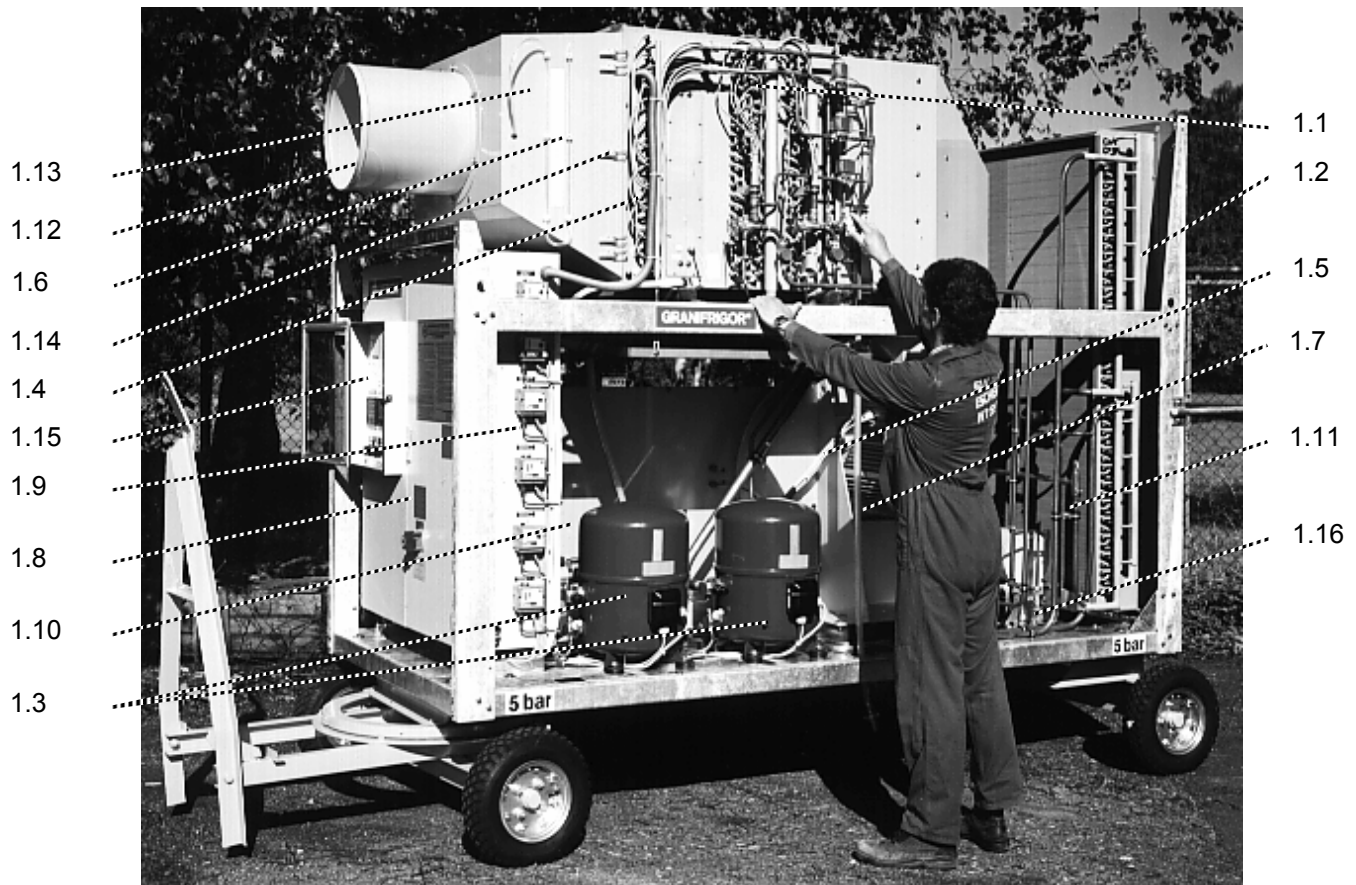

Fig. 1 Front side of the unit
(See figs. 1 – 3)
E.g. „Switch cabinet 1.8“ is found in Fig. 1, point